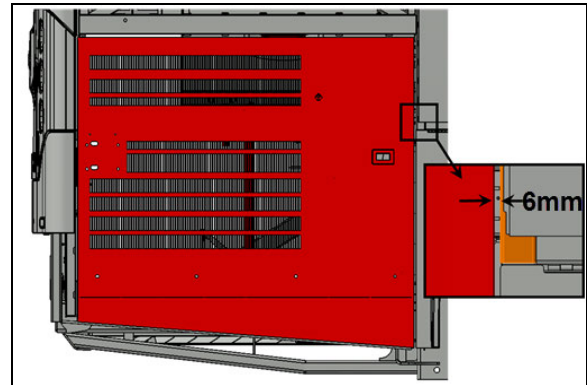

FIGURE 48
5. Check the gap between the door and the adjacent panel at the level of the upper attachment panel of the arm on the door. The gap should be 1/4" (6 mm) (FIGURE 48).